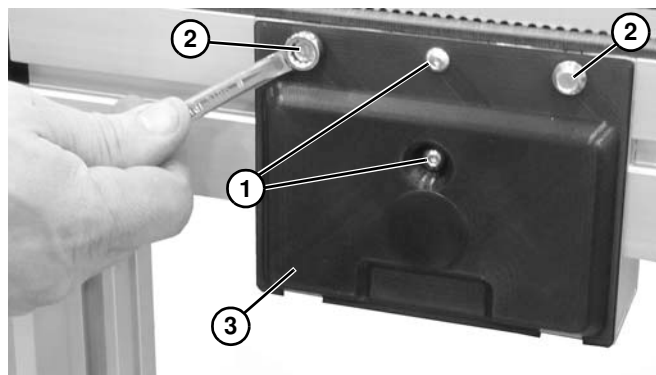

Figure 29
2. Remove button head screws (**Figure 29, item 1**).
3. Remove hex flange screws (**Figure 29, item 2**) and mid drive cover (**Figure 29, item 3**).